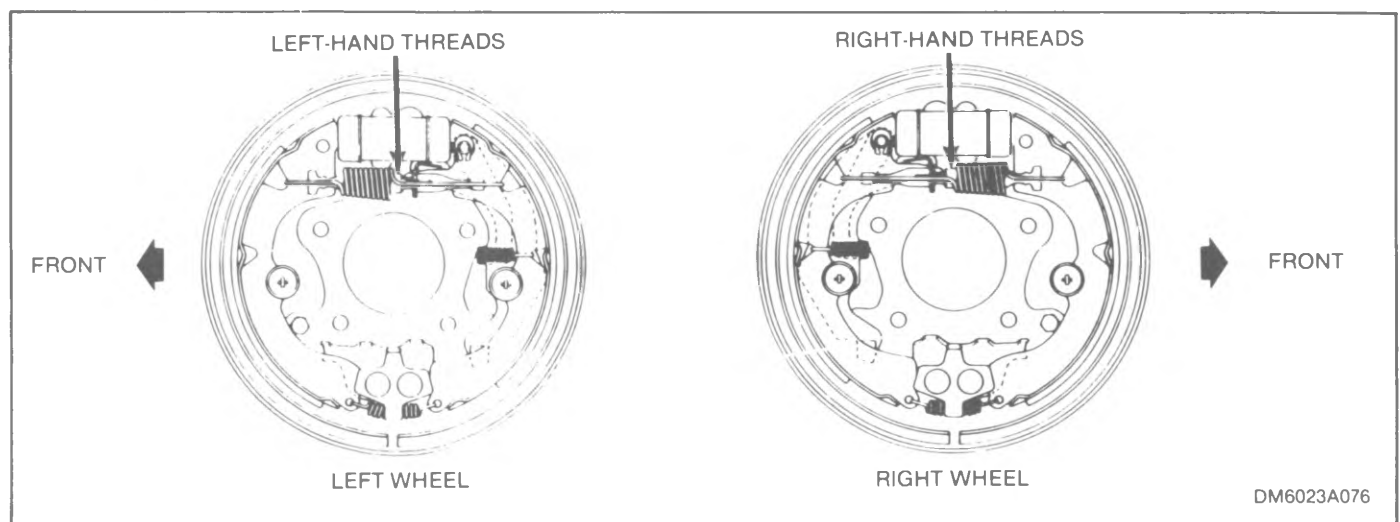
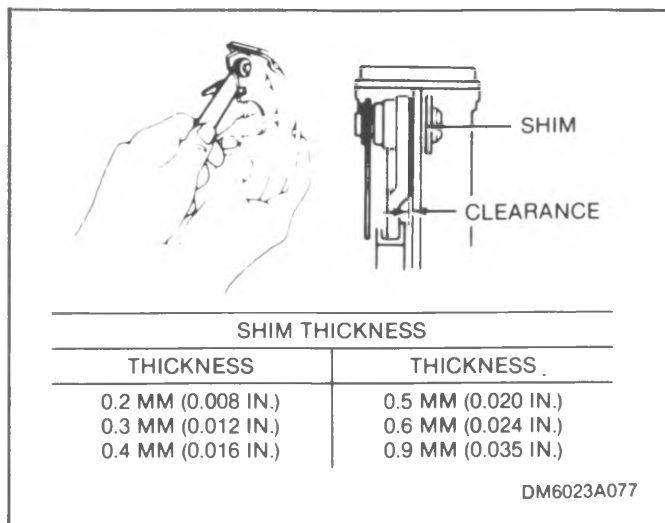

Figure 4-32. Left Hand and Right Hand Brake Assemblies
Figure 4-33. Lever to Shoe Clearance and Shims
16. Note the difference between RH and LH assemblies shown in figure 4-32.
17. Assemble adjusting lever (17) parking brake lever (18), and shim (19) to trailing shoe & lining (10) and temporarily attach with C-washers (16).
18. Check clearance between trailing shoe and lining (10) and parking brake lever (18) with feeler gage (see figure 4-33). Clearance shall be 0-0.35 mm (0.0138 in.) If clearance is outside limits, use shim (19) (figure 4-33).